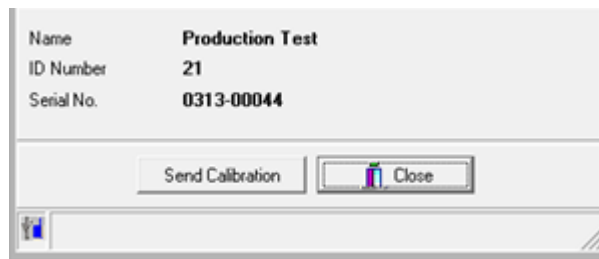

Figure 6
- The **EMS USB Sensor Calibration VX.X window** is displayed. See Figure 6 below: